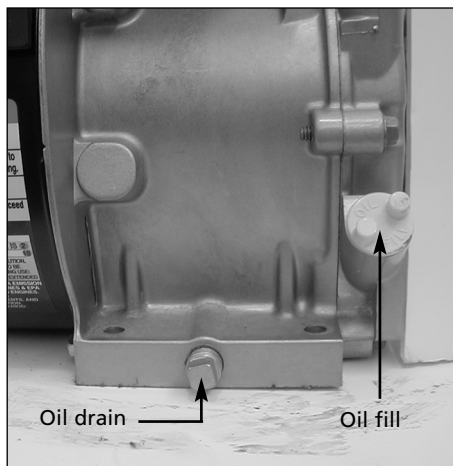

Figure 19 - Oil drain and fill locations
2. Locate and remove the engine oil drain plug (see Figure 19).